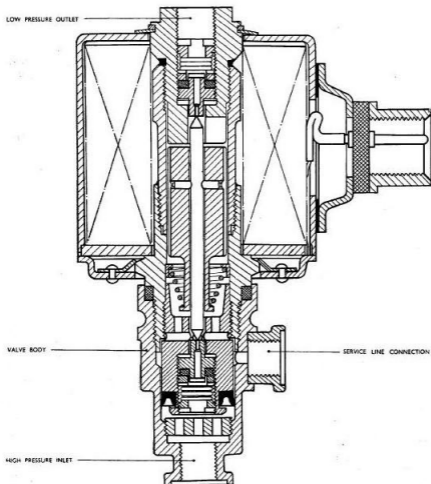
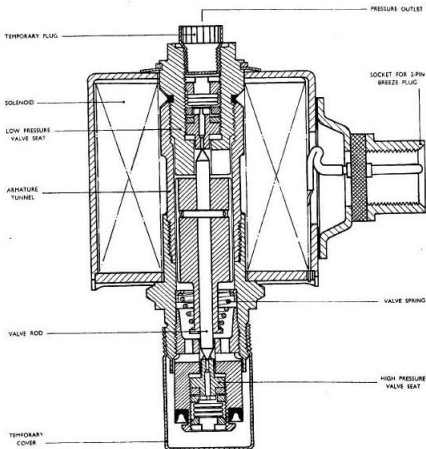

Fig. 1. Valve, Type FAC, with valve body
Fig. 2. Valve, Type FAC, without valve body
2. The valve consists of a solenoid and a valve assembly. Types FAC/A/316 and /319 are fitted with a valve body as an integral part of the valve (fig. 1), but in Types FAC/A/218 and /230 the valve body is not supplied (fig. 2). Electrical connection is made by means of a 2-pin Breeze plug, Type CZ1064/2. The working hydraulic pressure is 2,000 lb. per sq. in., and the test pressure 3,000 lb. per sq. in.